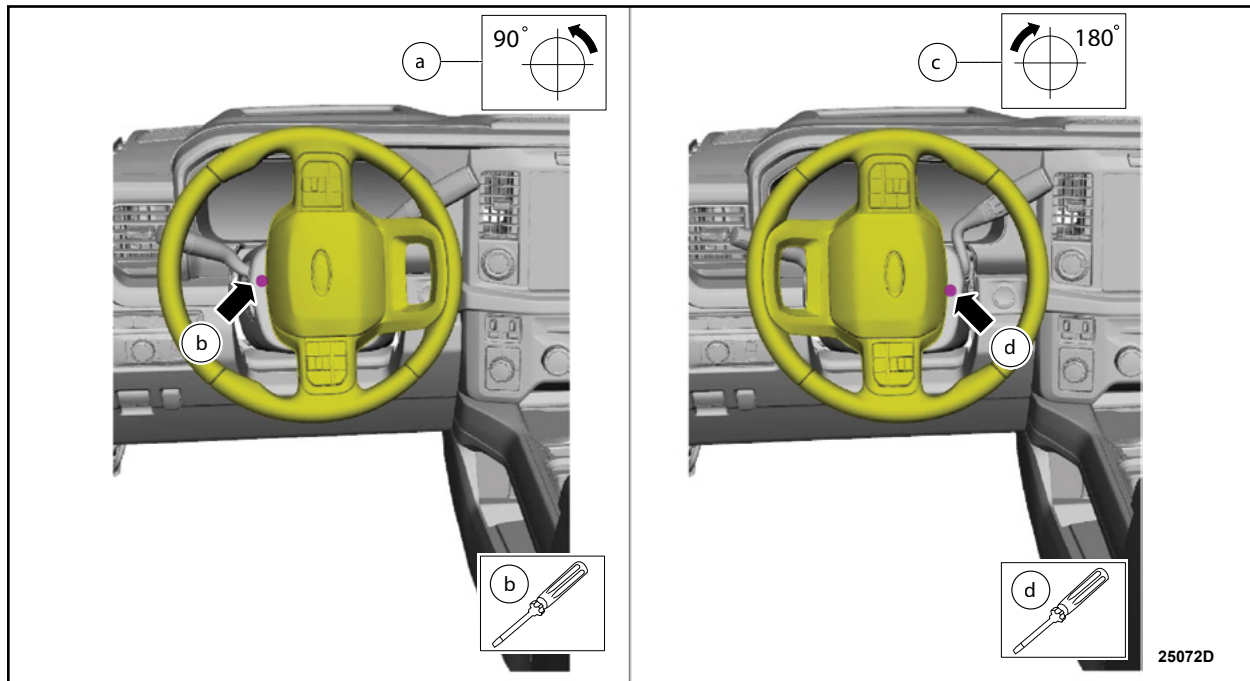

FIGURE 3
3. Release the upper steering column shroud front clips. See Figure 3.